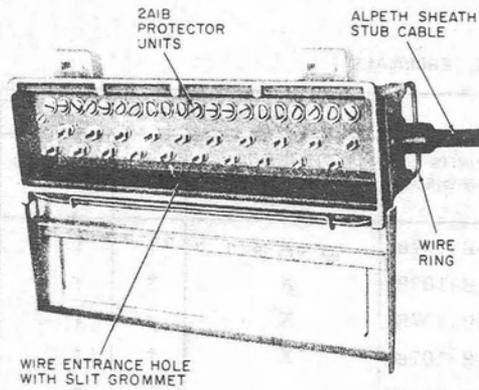
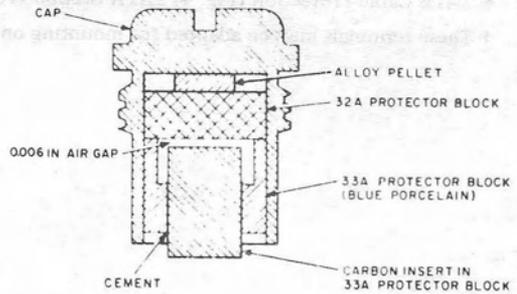
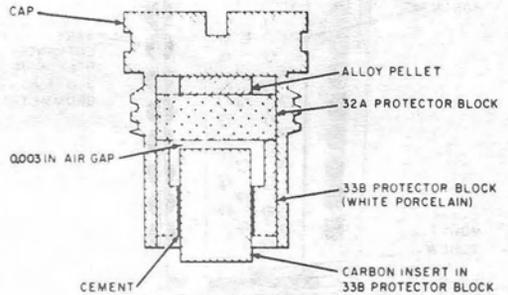

Fig. 1—NC10P Cable Terminal
Fig. 4—2A1B Protector Unit
Fig. 7—2A1A Protector Unit
2.02 **NC-type cable terminals** are protected type terminals available in either 10-, 16-, or 25-pair sizes (Fig. 1, 2, and 3). They are equipped with 2A1B protector units (Fig. 4) which provide cable protection.
* 2A1B Cable Protection (Fig. 4) 2A1A Station Protection (Fig. 7).
(b) 2A1A protector units (Fig. 7) are substituted for 2A1B protector units to provide the required fuseless station protection. (See Note after 2.02).